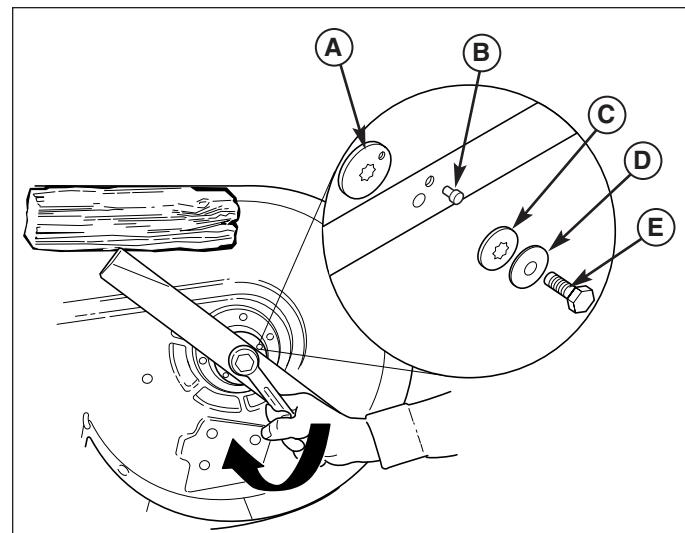
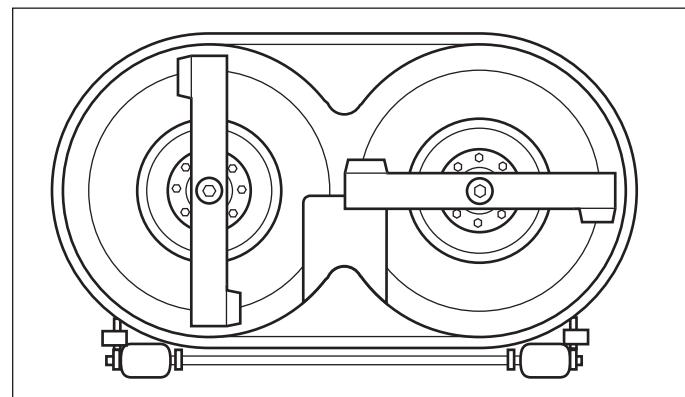

Figure 23. Installing The Blade
Figure 24. Blade Timing
4. Install the new blades with the lift tabs pointing up toward deck (Figure 23). Secure with a capscrew (E), spring washer (D), spline washer (C), and alignment pin (B) (be certain the spline washer is aligned with the shaft). Use a wooden block to prevent blade rotation and torque capscrews to 45-55 ft.lbs. (61-75 N.m.).
5. Check that the mower blades are timed perpendicular to each other (see Figure 24). If not, remove the blade and rotate the adapter (A, Figure 23) using the procedure outlined in Servicing the Mower Blades
2. Check that the mower blades are perpendicular to each other (Figure 24). If not, remove the blade and rotate the adapter (A, Figure 23) using the procedure outlined in Servicing the Mower Blades